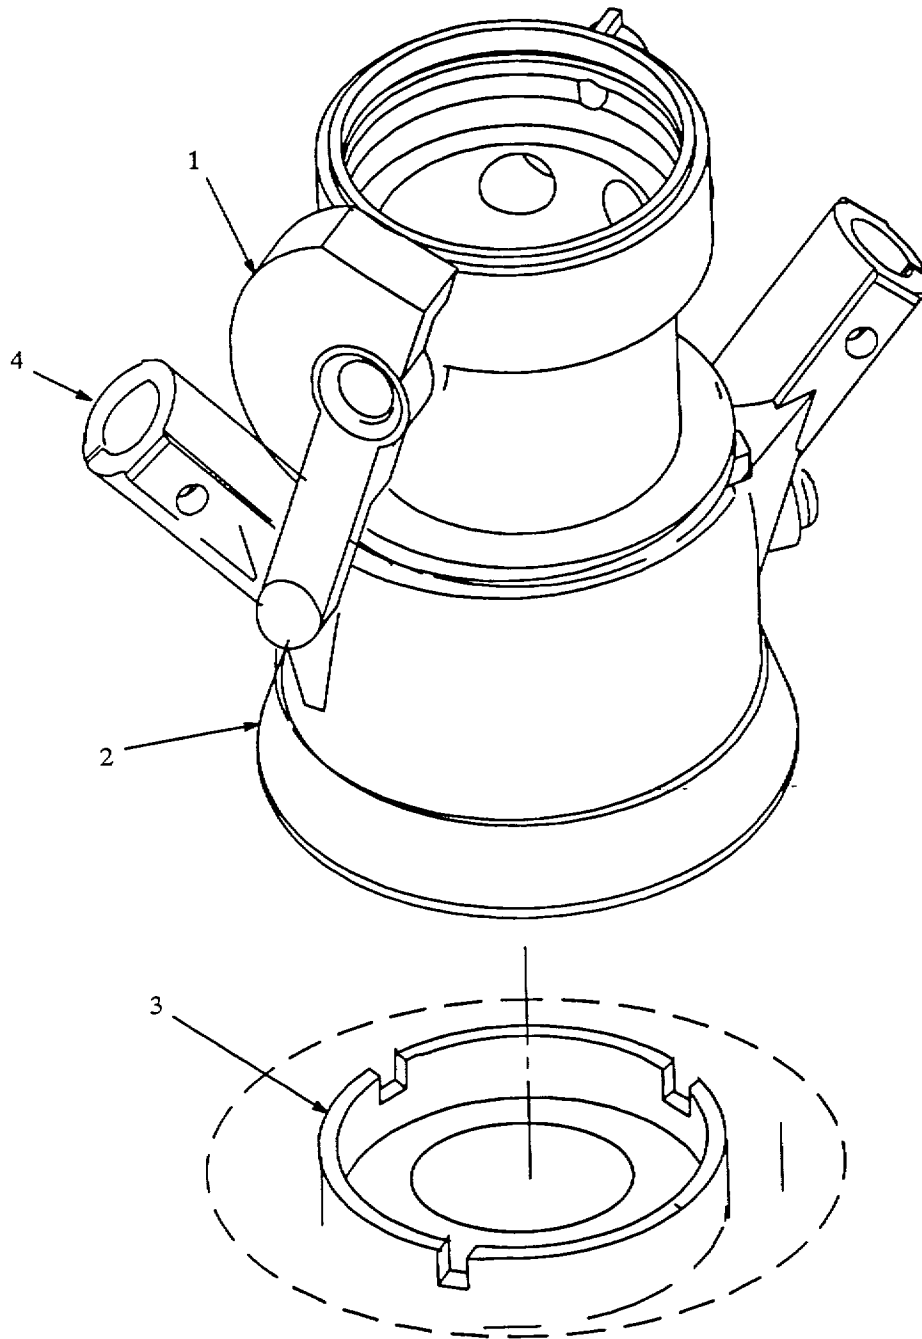

Figure 5-8. Recirculation Nozzle Functional Test.
- (1) Functional Test. Refer to figure 5-8.
- (a) Attempt to move lever (1) to the OPEN position. Lever must not move to OPEN position.
- (b) Connect nozzle (2) to test adapter (3) (para 2-12b).
- (c) Rotate lever (1) to the OPEN position until it passes over center and stops against the internal stop.
- (d) Grab handles (4) and attempt to remove nozzle (2) from adapter (3). Nozzle should not disconnect.
- (e) Position lever (1) to CLOSE, then OPEN position. Repeat a minimum of five times. Lever should be not bind or require excessive force to operate and must lock over center in the CLOSED position.
- (f) Position lever (1) to CLOSED position, and disconnect nozzle (2) from adapter (3) (para 2-12b).